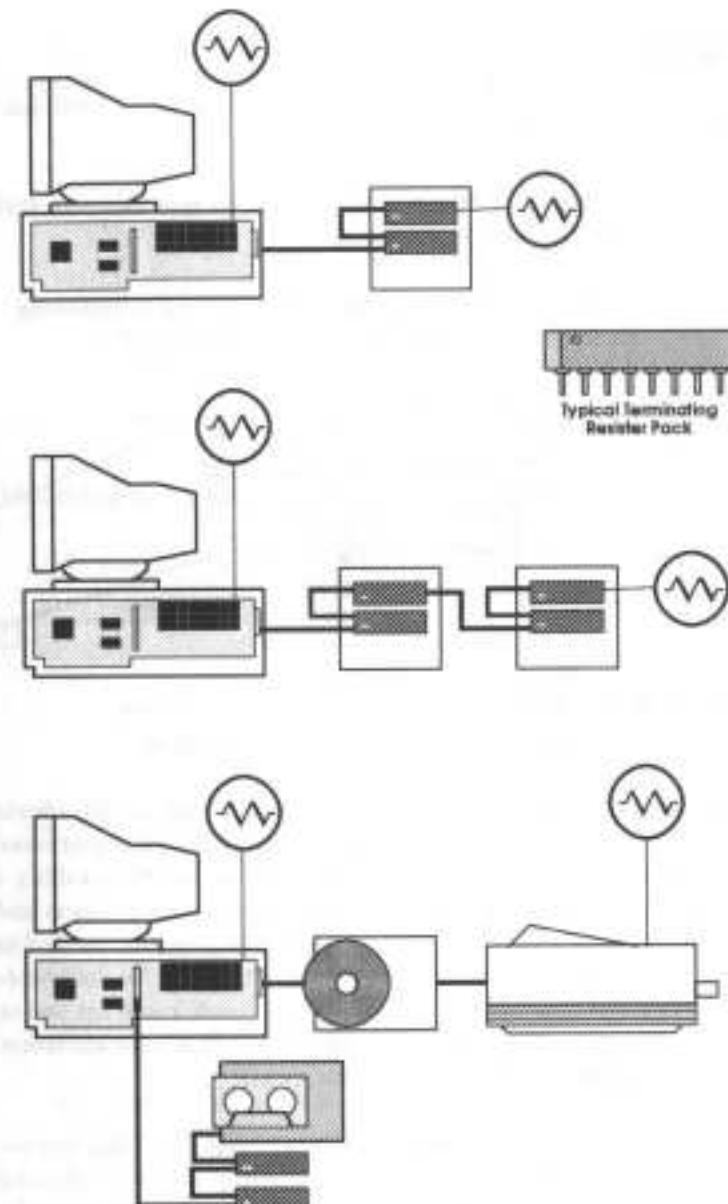

Figure A.2 – SCSI bus connections and termination.
**NOTE:** The GVP SCSI controller, itself, provides termination for the head end of the bus. If several devices are attached to the external 25-pin connector, only the last device on the bus should be terminated (see Figure A.2).